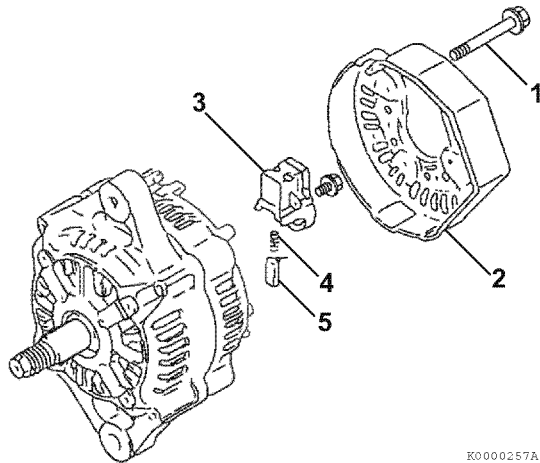

Figure 12-6
2. Remove the three bolts (1, **Figure 12-6**) retaining the rear cover (2, **Figure 12-6**) to the rear frame assembly.
3. Remove the brush holder (3, **Figure 12-6**). Remove the brush springs (4, **Figure 12-6**) and brushes (5, **Figure 12-6**).